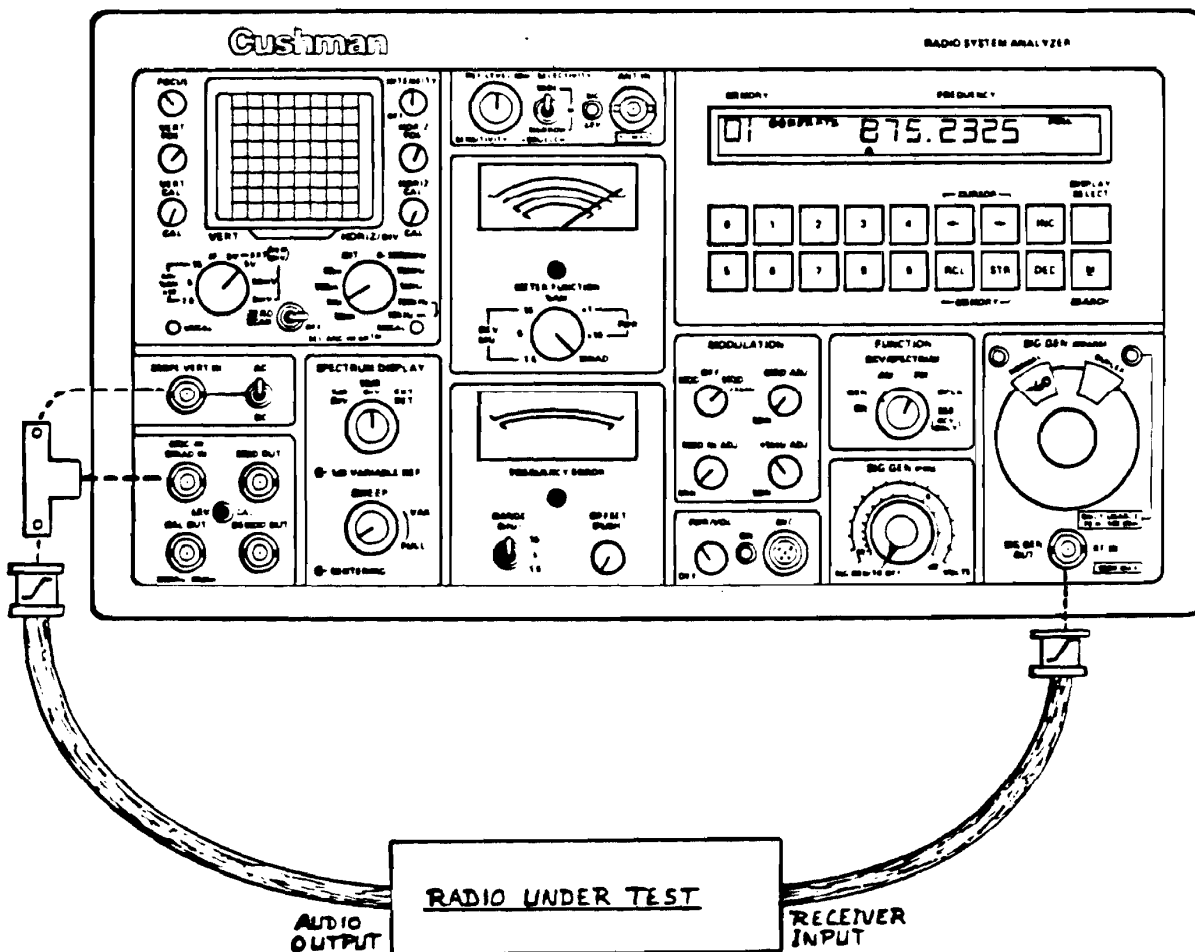

Figure 4-3. SINAD Measurement Interconnect
- b. Connect the radio to the CE-6000 as shown in Figure 4-3, Sinad Measurement Interconnect.